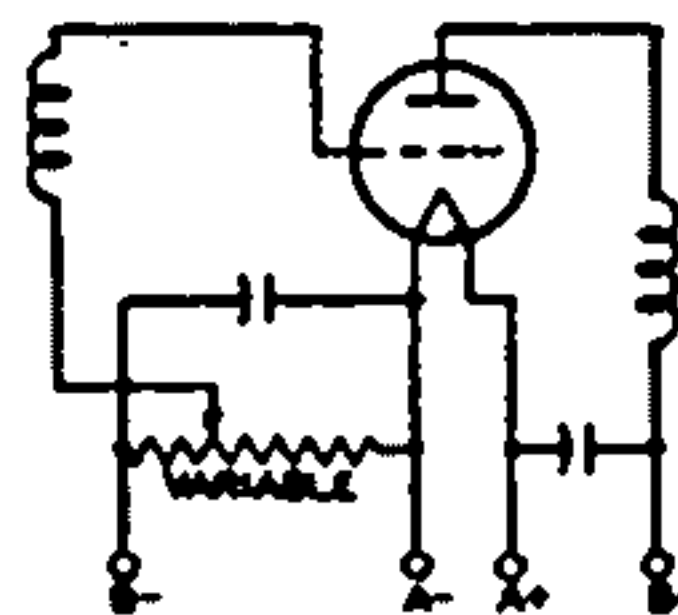
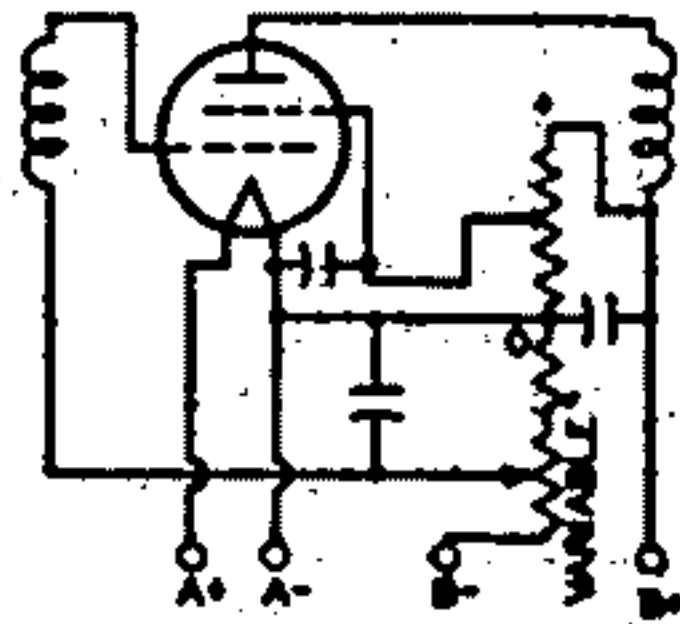

Fig. 114—Amplifier stage using a variable cathode-bias resistor for volume control.
Fig. 116—Amplifier stage using a bleeder circuit and potentiometer for volume control.
Grid-bias variation for the rf and af amplifier stages is a convenient and frequently used method for controlling receiver volume. The variable voltage supplied to the grid may be obtained: (1) from a variable cathode resistor as shown in Figs. 114 and 115; (2) from a bleeder circuit by means of a potentiometer as shown in Fig. 116; or (3) from a bleeder circuit in which the bleeder current is varied by a tube